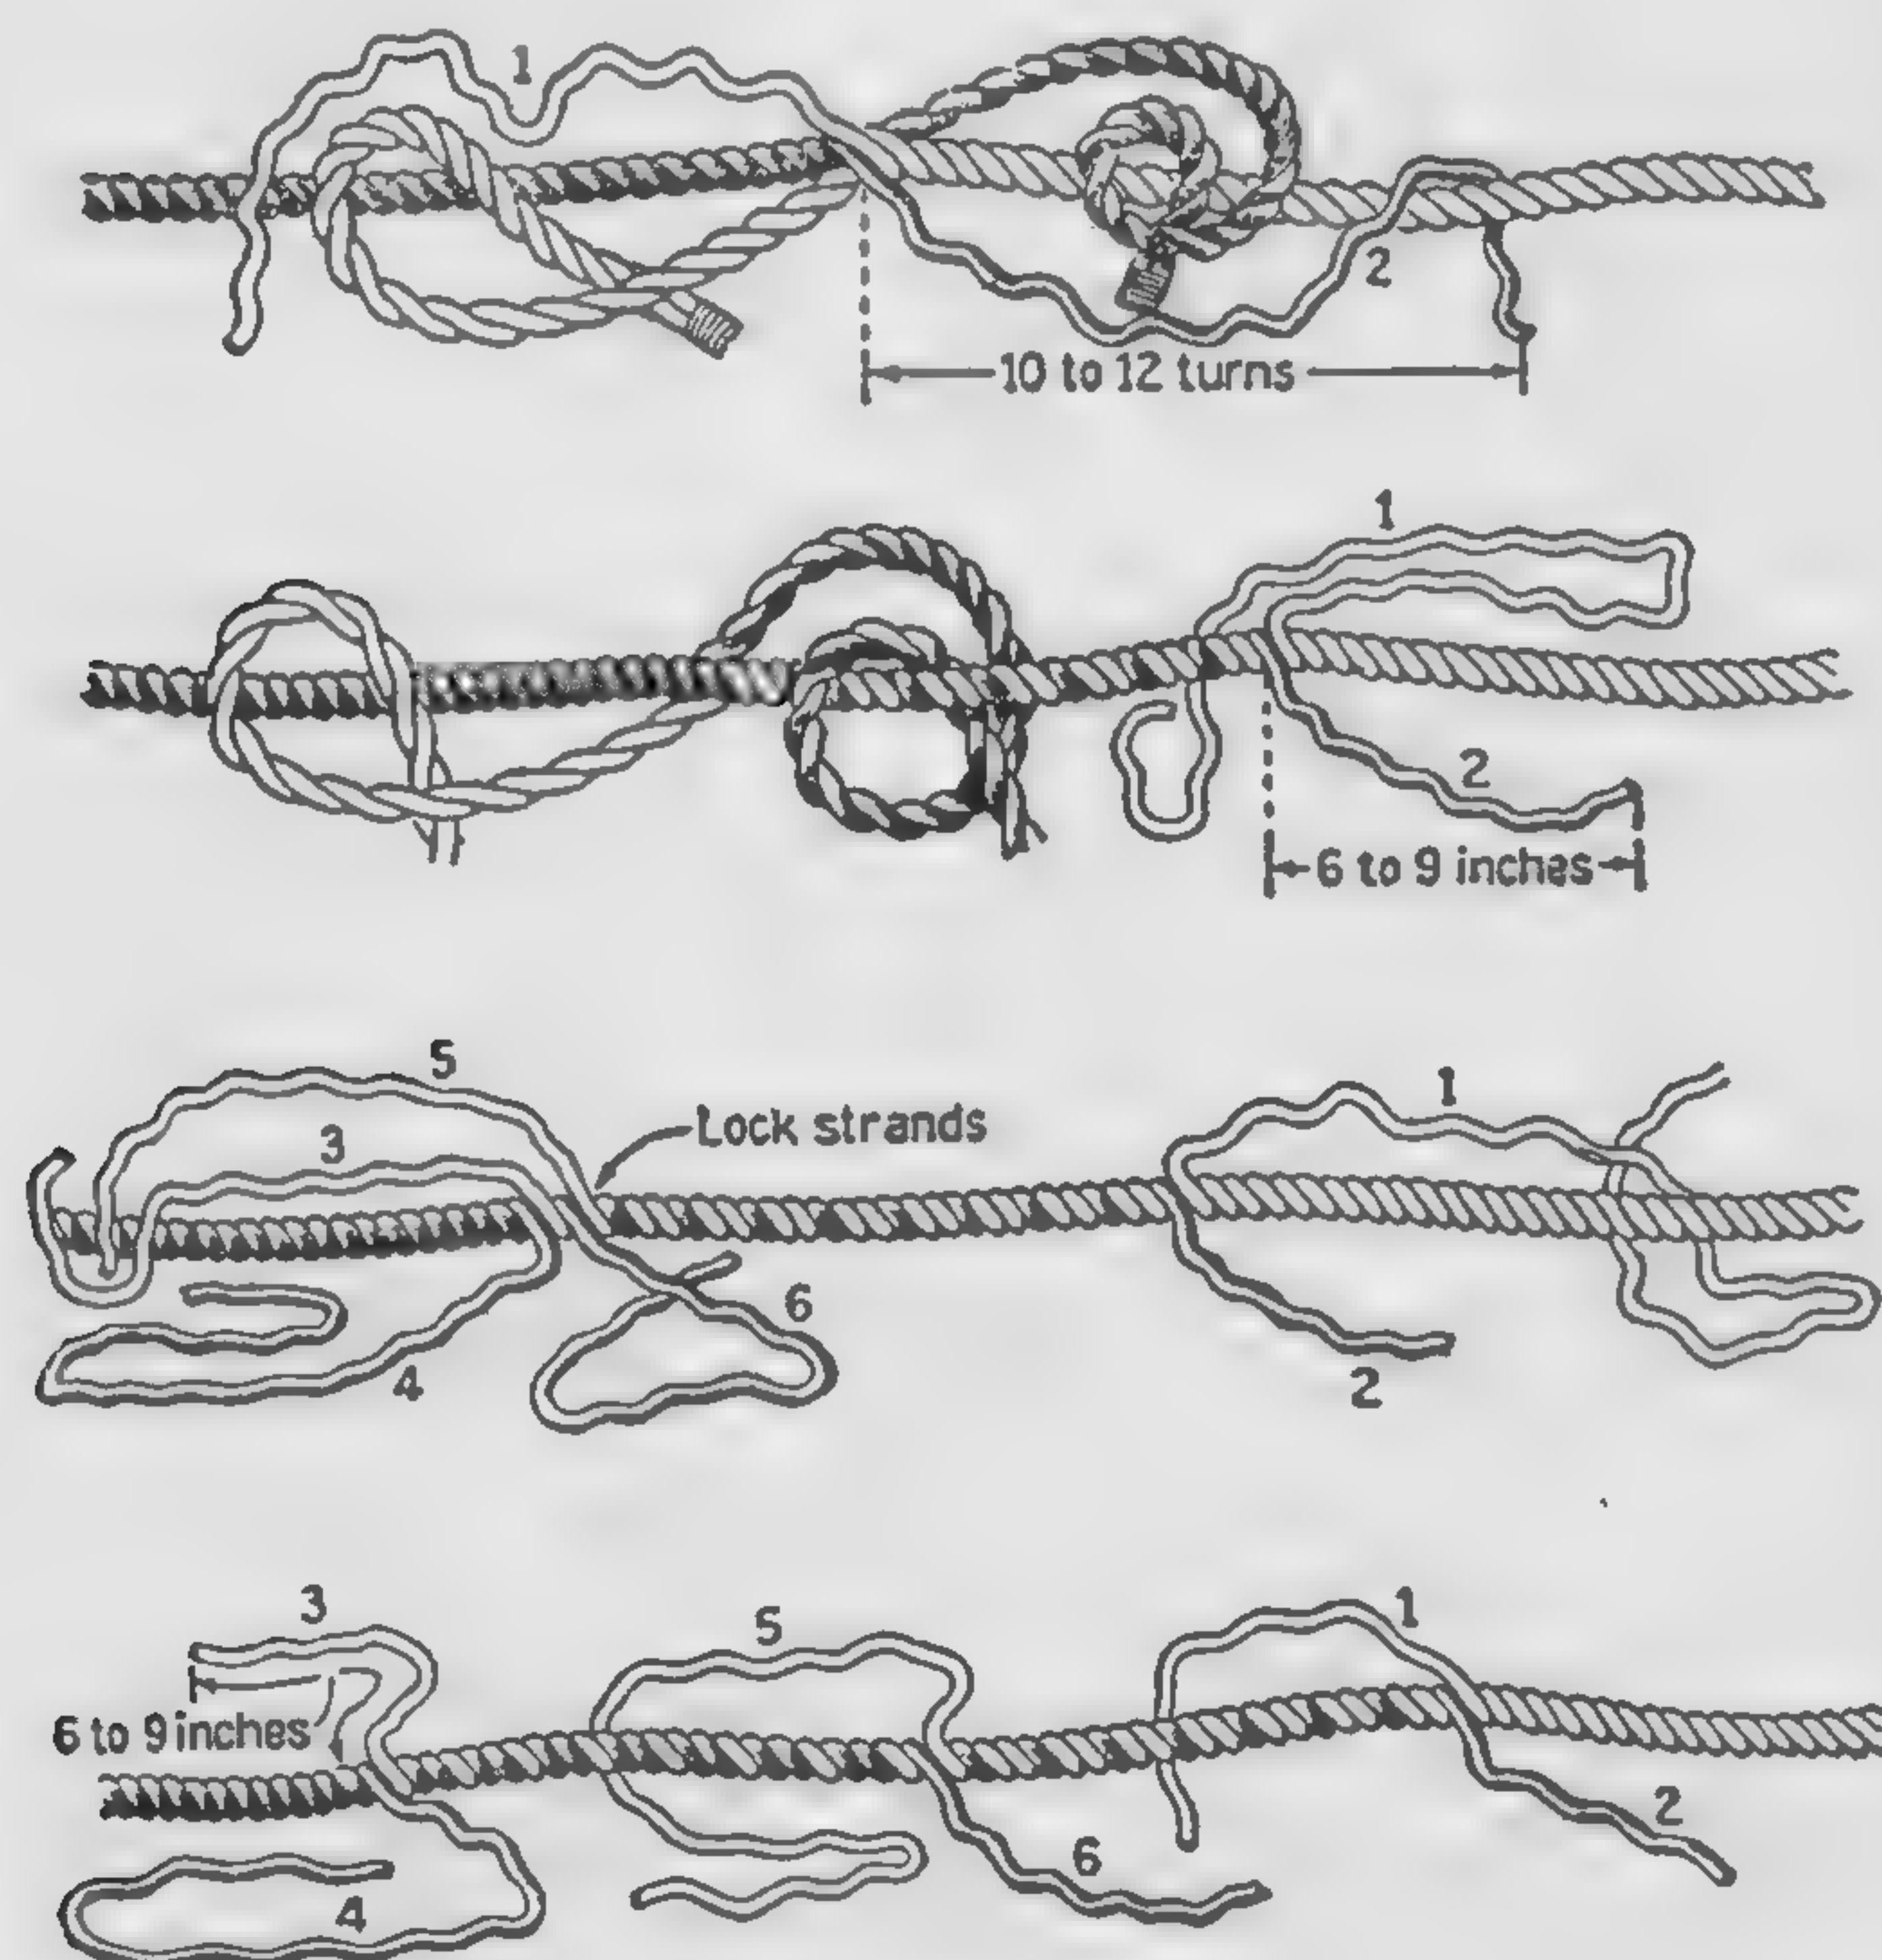

Fig. 4
Long Straight Splice. The long straight splice is used to unite the ends of rope required for passing over sheaves, by interweaving strands, and when properly made it has 90% of the strength of the rope and therefore it is stronger than the short straight splice. Figs. 4 and 5 illustrate, in sequence, the steps in making the long straight splice. This splice has the advantages of being stronger than the short straight splice and smaller than the short straight splice, thereby allowing it to pass through the sheaves of a block.
1. Unlay only one strand of each rope for 10 or 12 turns. Lock and draw ends of the rope tightly together, having the single strands 1 and 2 side by side, as illustrated in Fig. 4.
3. Untwist the two pairs of strands left at the center and lock them as shown in Fig. 4. Strand 3 between strands 4 and 6, and strand 6 between strands 3 and 5. Unlay toward the left; strand 4; and follow it with strand 3, as was done toward the right with strands 1 and 2. *Note: Do not unlay strand 6 instead of 4 and follow it with 3.*
4. Continue until strand 3 is only 6" to 9" long. The breaks in the strand are now separated as shown in Fig. 4.